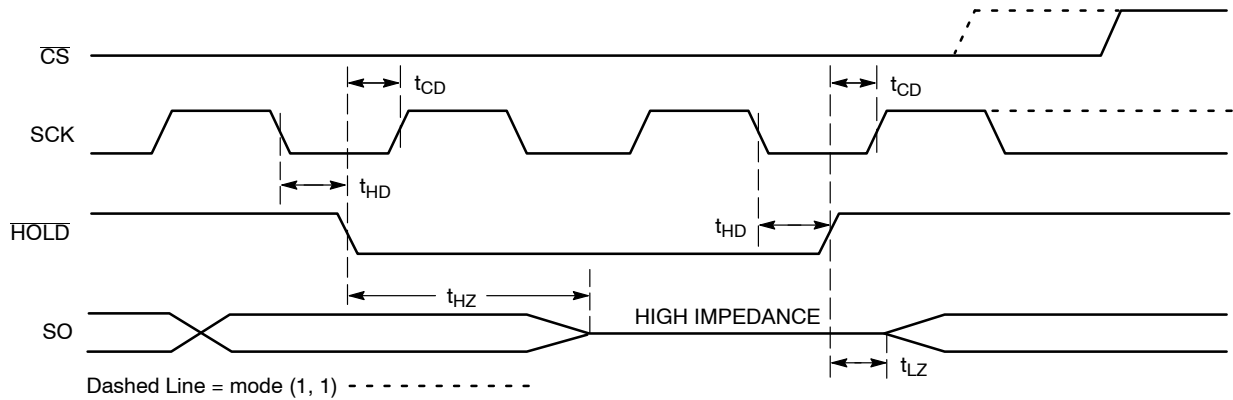

Figure 11.  $\overline{\text{HOLD}}$  Timing
The  $\overline{\text{HOLD}}$  input can be used to pause communication between host and CAT25256. To pause,  $\overline{\text{HOLD}}$  must be taken low while SCK is low (Figure 11). During the hold condition the device must remain selected ( $\overline{\text{CS}}$  low). During the pause, the data output pin (SO) is tri-stated (high impedance) and SI transitions are ignored. To resume communication,  $\overline{\text{HOLD}}$  must be taken high while SCK is low.